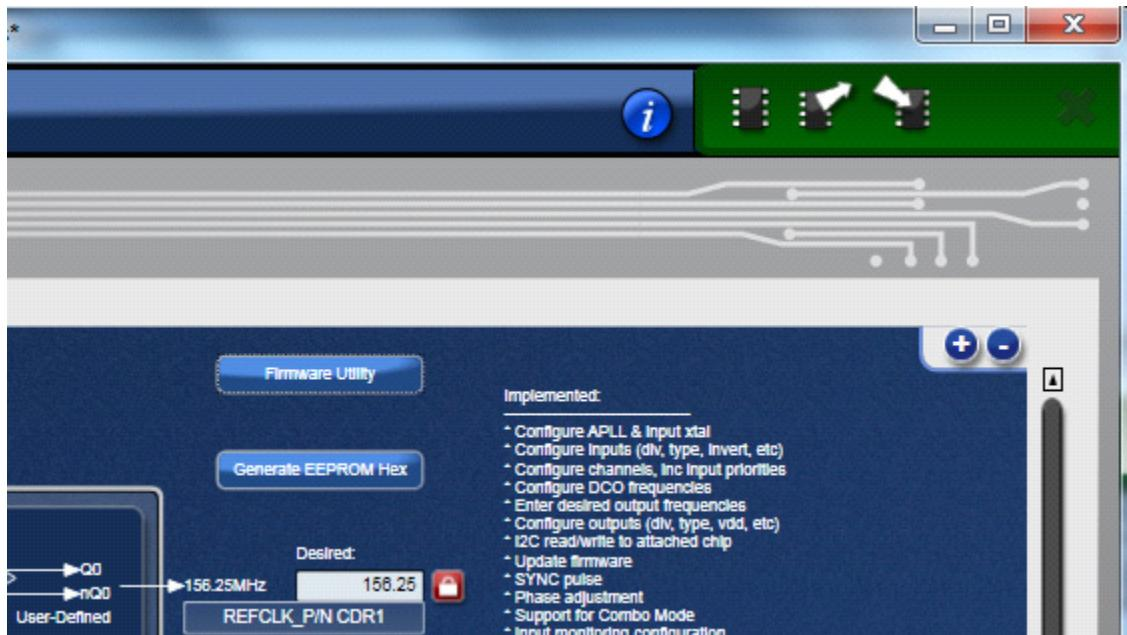

Figure 10. A Green Band Appears when a Valid Connection is Made
6. Click on the chip symbol at the upper-right corner of the GUI window to initiate the connection. The connection is valid when a green band appears at the upper-right corner of the window, as shown in Figure 10.